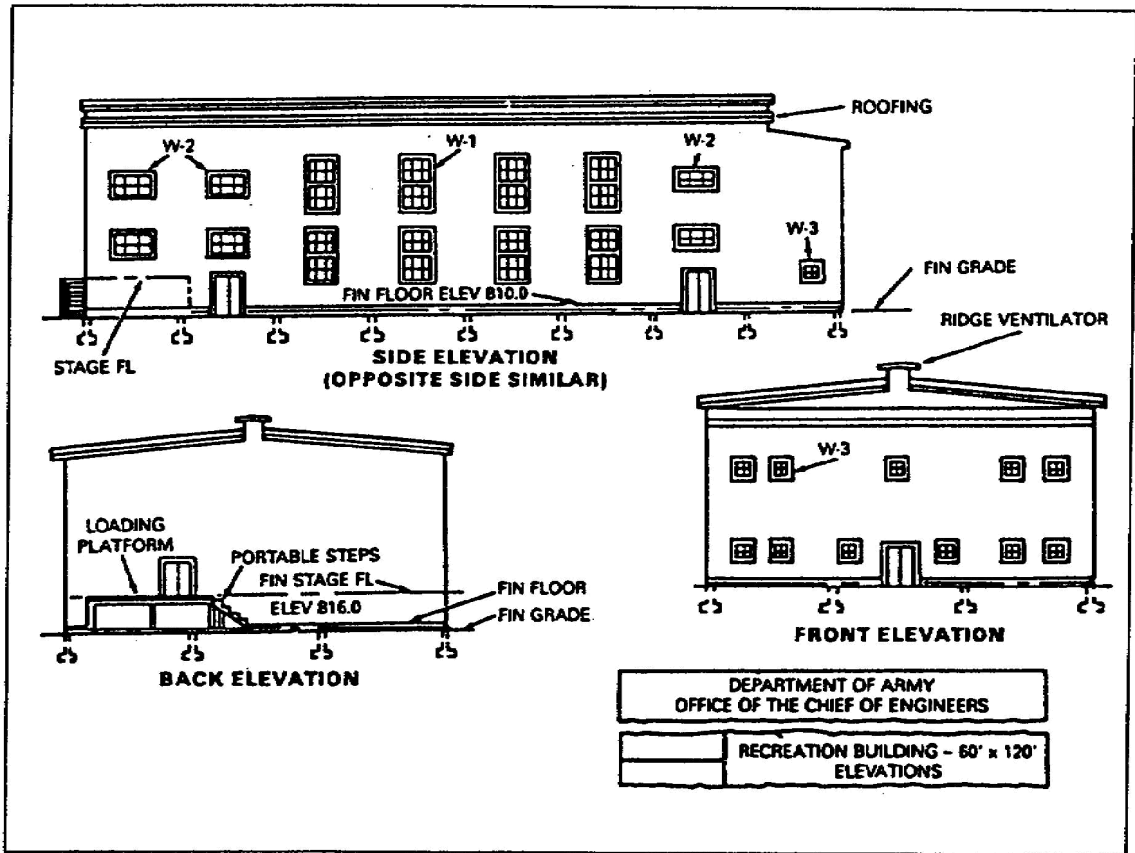

Figure 1-6. Elevation views
b. Elevations. Elevations are drawings that are commonly used to show exterior views of a structure from the front, rear, left, and right sides (Figure 1-6). They show a picture-like view as it would actually appear on a vertical plane. You must have a good overall idea of the structure before you examine it in detail. Elevations also show the types of doors and windows (drawn to scale) and how they will appear on the finished structure. Ask yourself does the structure have a simple roof? Is the floor level close to ground level (grade)?